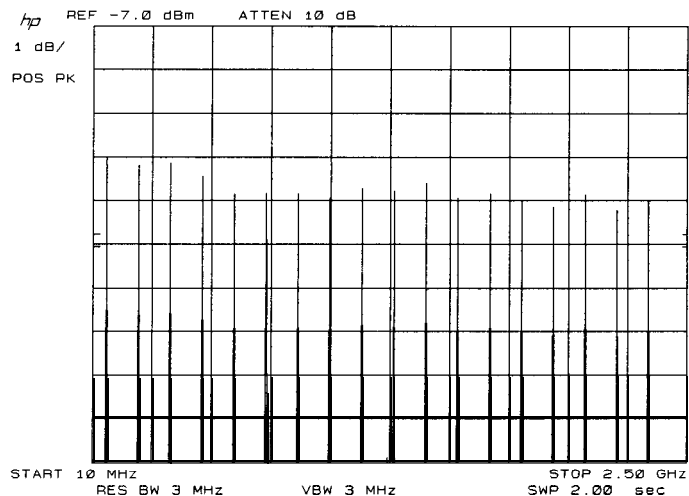

Figure 3-92.
34. On the spectrum analyzer, key in TRACE A **(@LEARN-WRITE)**, **(SWEEP TIME)** 2s, **(MARKER)** **(NORMAL)** 500 MHz, **(HOLD)**. As the spectrum analyzer completes each sweep, a series of approximately 18 new responses should be displayed, as shown in Figure 3-92. The peaks of these responses coarsely outline the spectrum analyzer frequency response.